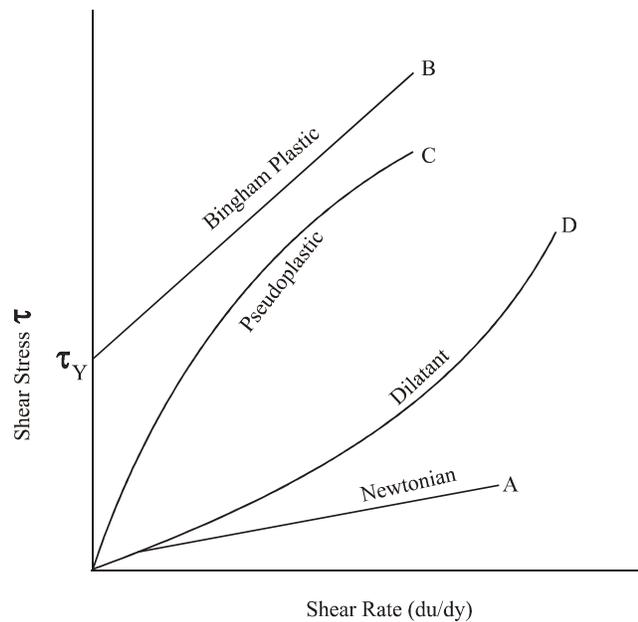

Figure 4.1
- They exhibit elastic recovery from deformations which occur during flow e.g. Polymeric liquids. A shear diagram for the various fluids is illustrated in Figure 4.1